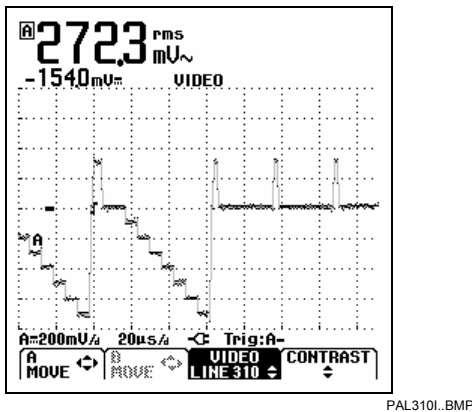

Figure 3-16. Test Tool Screen for PAL/SECAM line 310 Negative Video
- \Rightarrow line number 311 for PAL or SECAM, see Figure 3-16